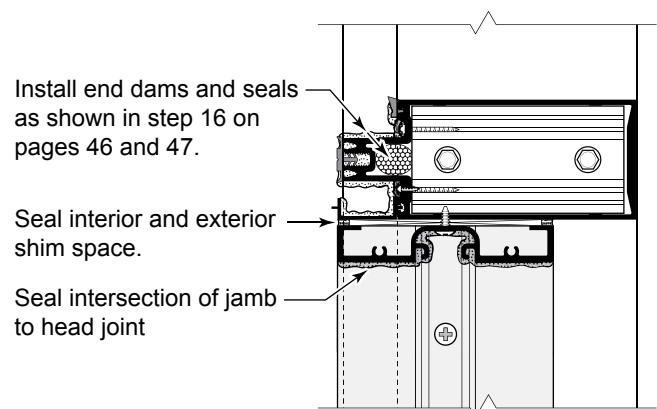

Fig. 58.3
- Seal the top of the jamb subframe as shown in **Fig. 58.3**.